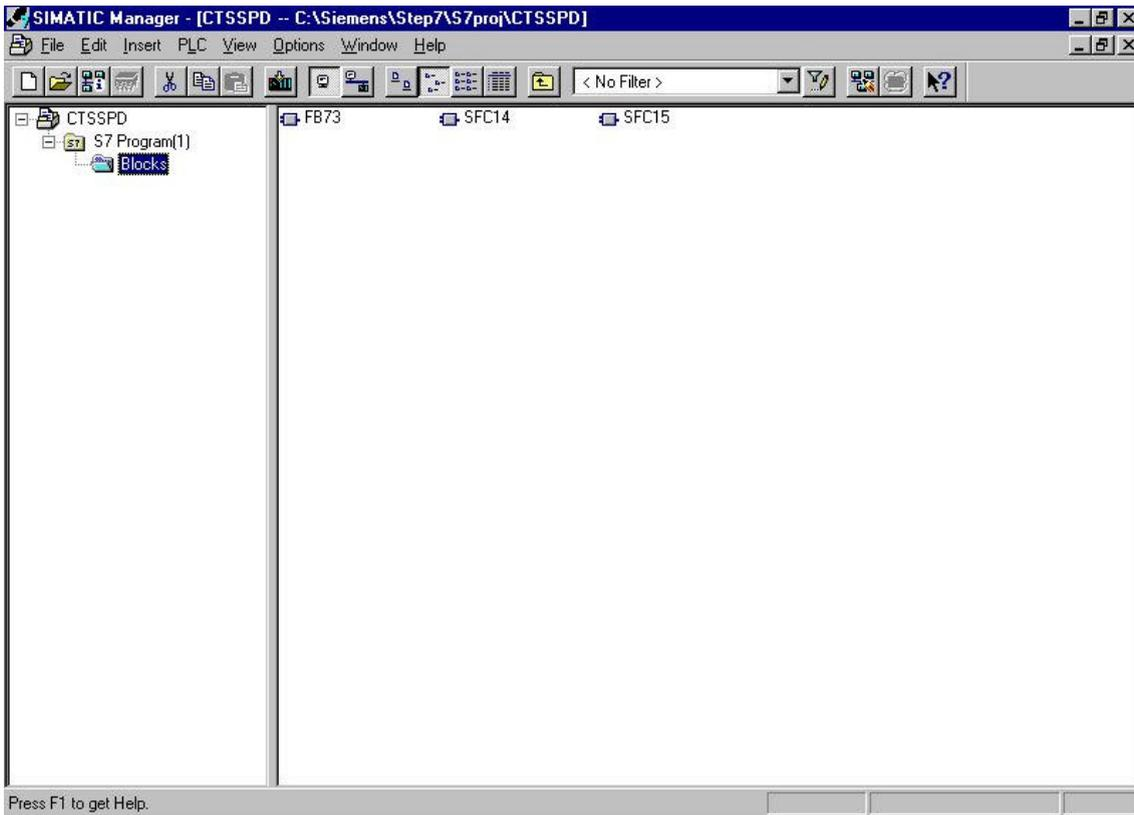

Fig 2 CTSSPD Function blocks
2. Expand all of the icons/folder in the project file list until the 3 function blocks are seen in the right hand section of the window. See figure 2.